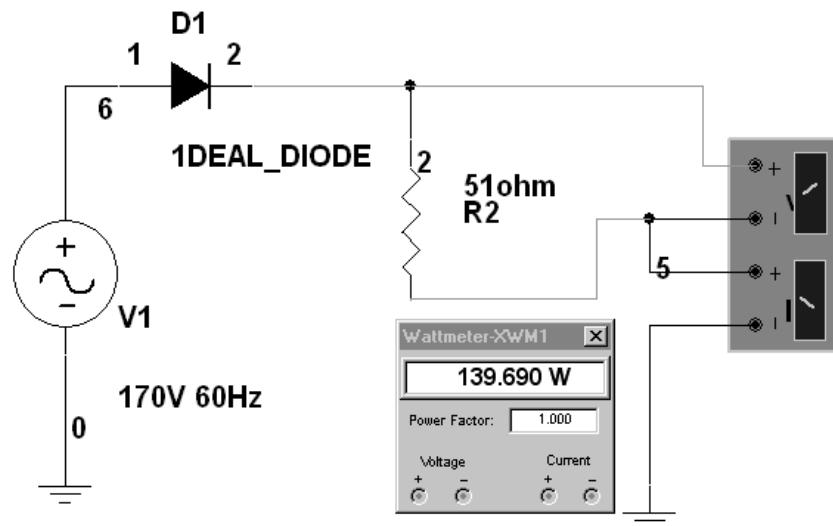

Figure 3-31 Multisim simulation for Example 3-10
- The simulator Multisim contains a wattmeter. Connect the voltage terminals across the part whose power you are measuring, and arrange the wiring so that the current through that part also flows through the current terminals (just as with an ammeter). The results are shown in Figure 3-31.